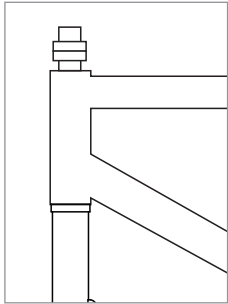

Figure 3
6. Add one or more spacers to steerer tube (Fig. 3).